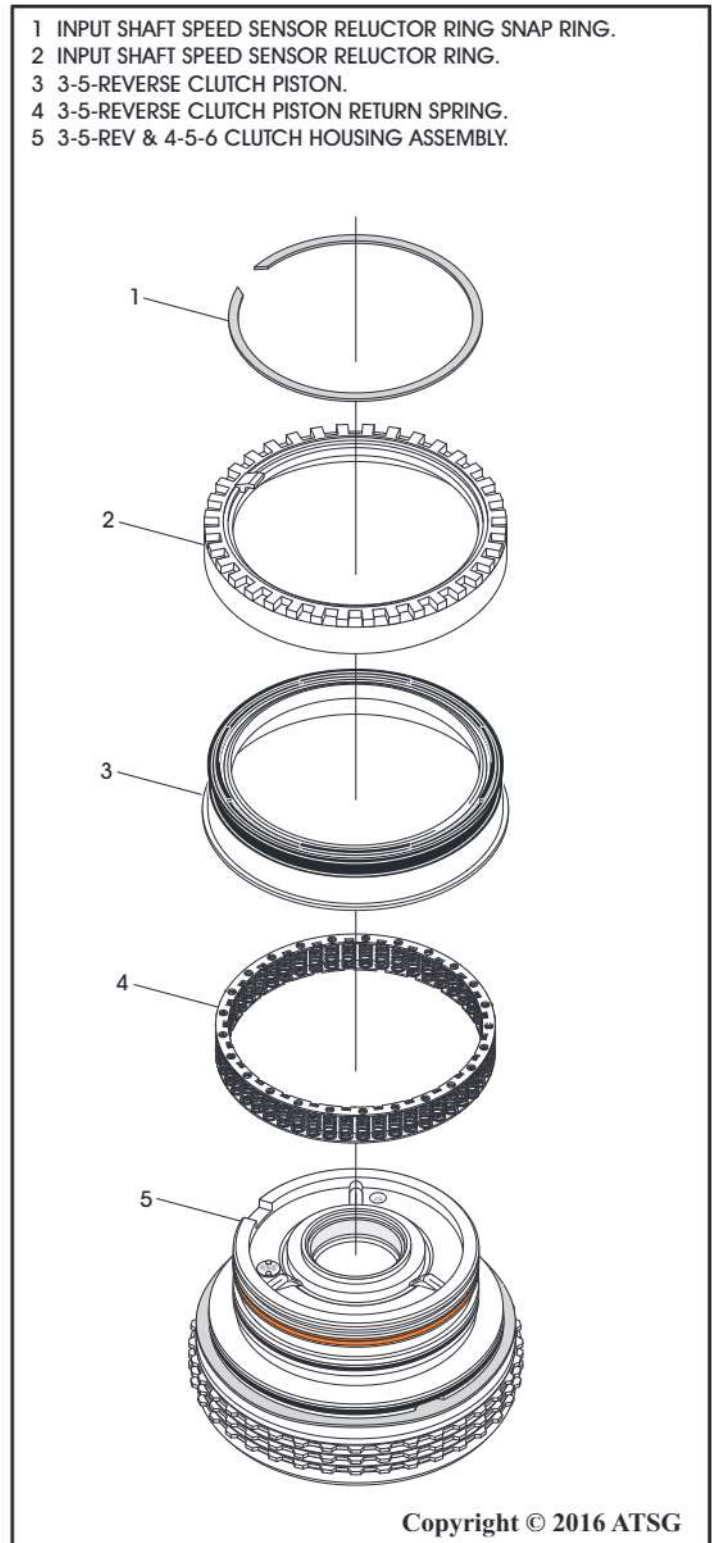

Figure 92
16. Remove the input speed sensor reluctor wheel, as shown in Figure 92.
17. Remove 3-5-Rev clutch apply piston, as shown in Figure 92 and discard.
18. Remove the 3-5-Rev clutch piston return spring, as shown in Figure 92.